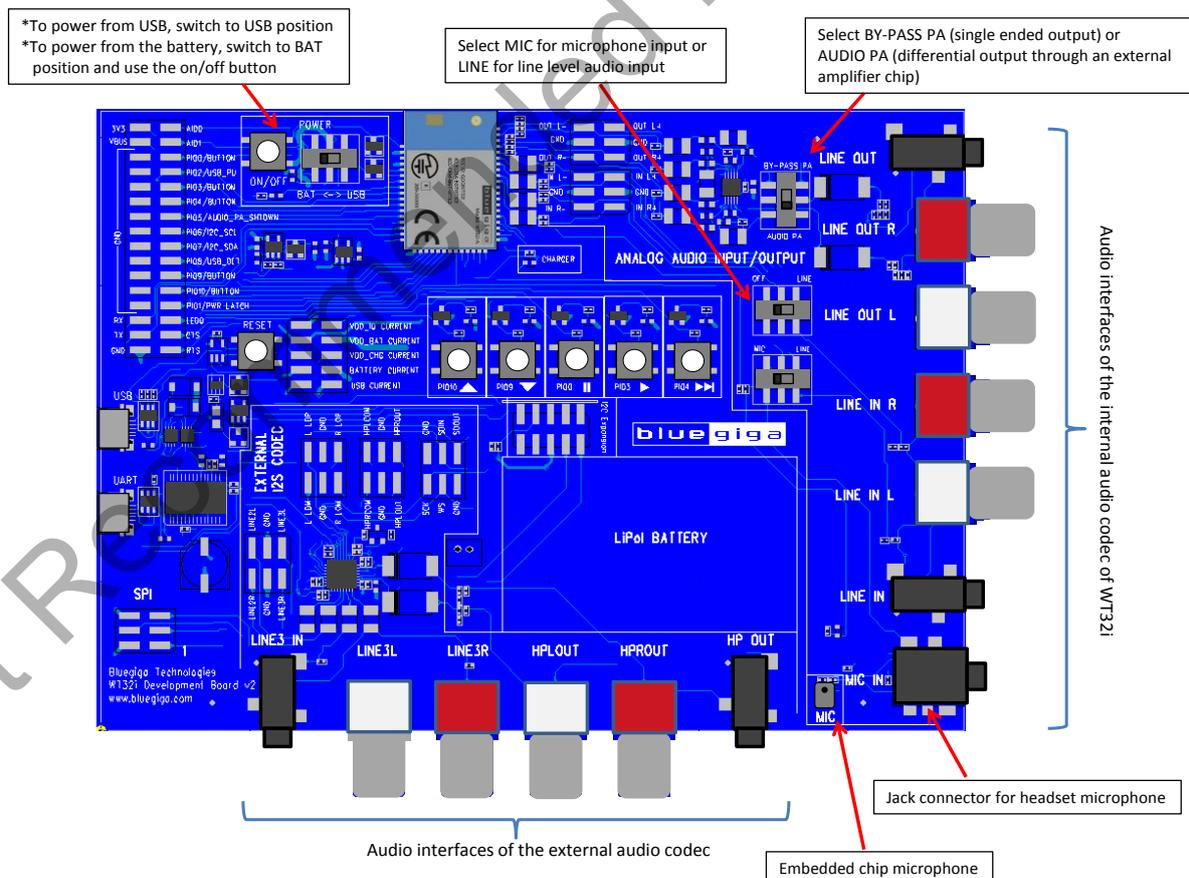

Figure 1: DKWT32i interfaces
**NOTE:** When using as Hands-Free device, make sure that the audio input is switched for the microphone input (see **Figure 1**)
The WT32i Development Kit is preconfigured for basic stereo audio streaming and hands-free use cases. DKWT32i is connectable as a Bluetooth audio device just by powering the board either from the USB or from the battery. The pairing code is 0000. Figure 1 describes the switches in the DKWT32i.